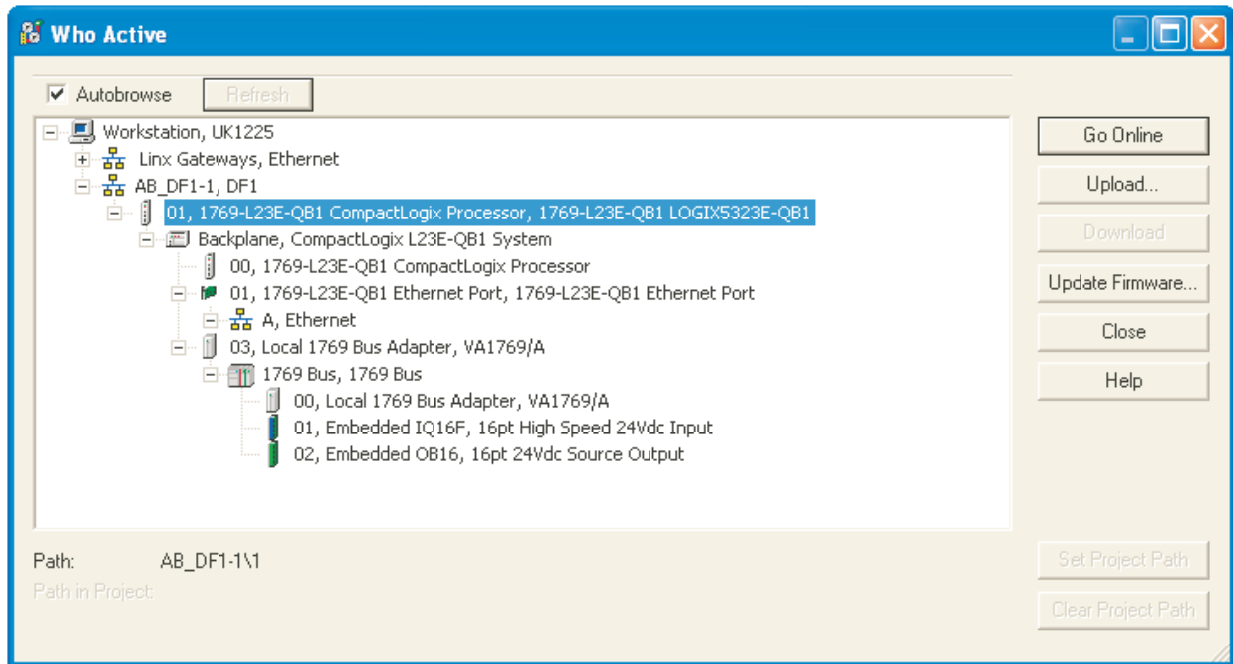

Figure 10-5: Who Active Window
1. Select the relevant instrument (Figure 10-5) and click on 'Update Firmware'. In the 'Choose Firmware Revision' window, select the latest version. Click on 'Update'.